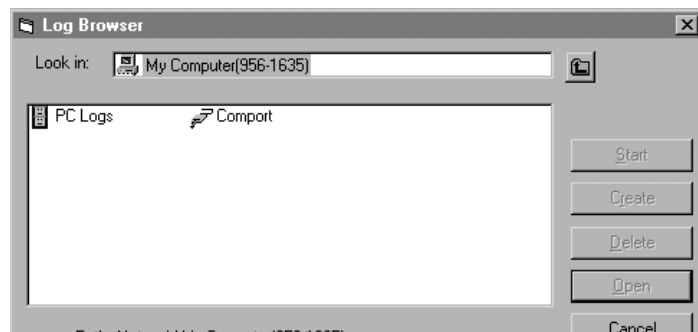

Figure 15: Completion of the NVR test
4. If the NVR passes the test, the screen appears similar to *Figure 15* below. Click [exit page] to return to the *hardware test* option, and [exit page] again to return to the main *calibration/test* menu.